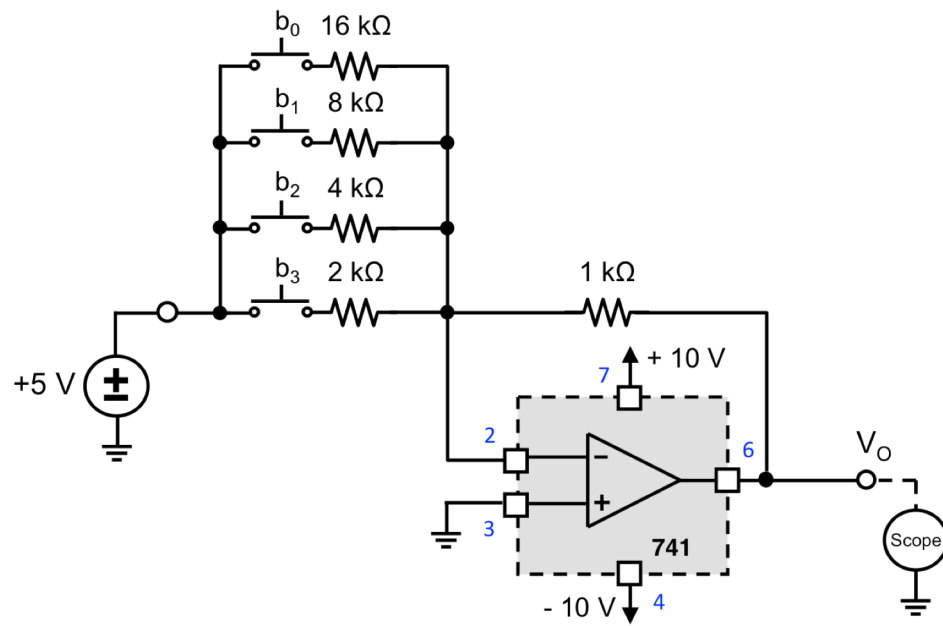

Fig. 9: D/A Converter
(7) **D/A Converter** (Fig. 9): The circuit shown in Fig. 9 is a 4-bit digital-to-analog (D/A) converter circuit. In essence, it consists of an inverting amplifier with four separate inputs. As the inverting input is held at virtual ground, currents from the four inputs are added and flow together into the output feedback resistor. The value of four input resistors have been chosen so that each contributes approximately twice as much current as the previous one, beginning with input 1. With a +5 V input signal, close the switch to each feed-in resistor in accordance to the Table 1, and observe the corresponding output voltage. A 0 indicates a switch is opened and a 1 indicates that the switch is closed.